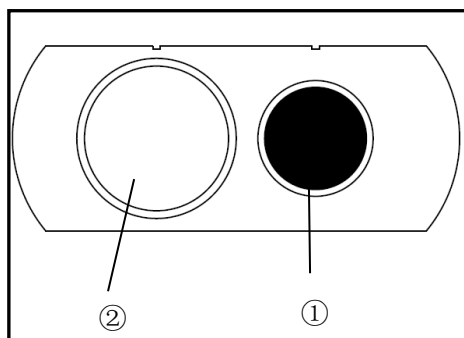

Fig.36
8.1 Bright and Dark Filed Components (Fig.36)